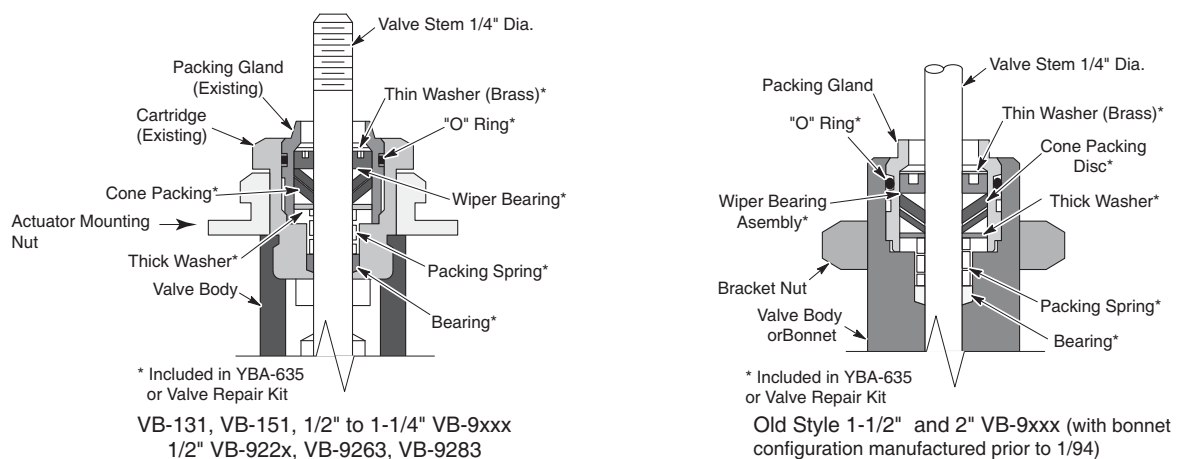

Figure-2 Installation of YBA-635 Packing Parts Kit onto Discontinued Valves
- Obsolete YBA-622 has a brass thin washer (refer to Figure-2) and white top bearing.
1. Remove existing packing gland with TOOL-20-1. Make sure that the retaining ring is brass and not stainless steel. Salvage existing packing gland (see Figure-2 )
5. If applicable, slide actuator mounting nut (see Figure-2 ) onto valve body with threaded section pointing upwards. Install new packing per above figure.